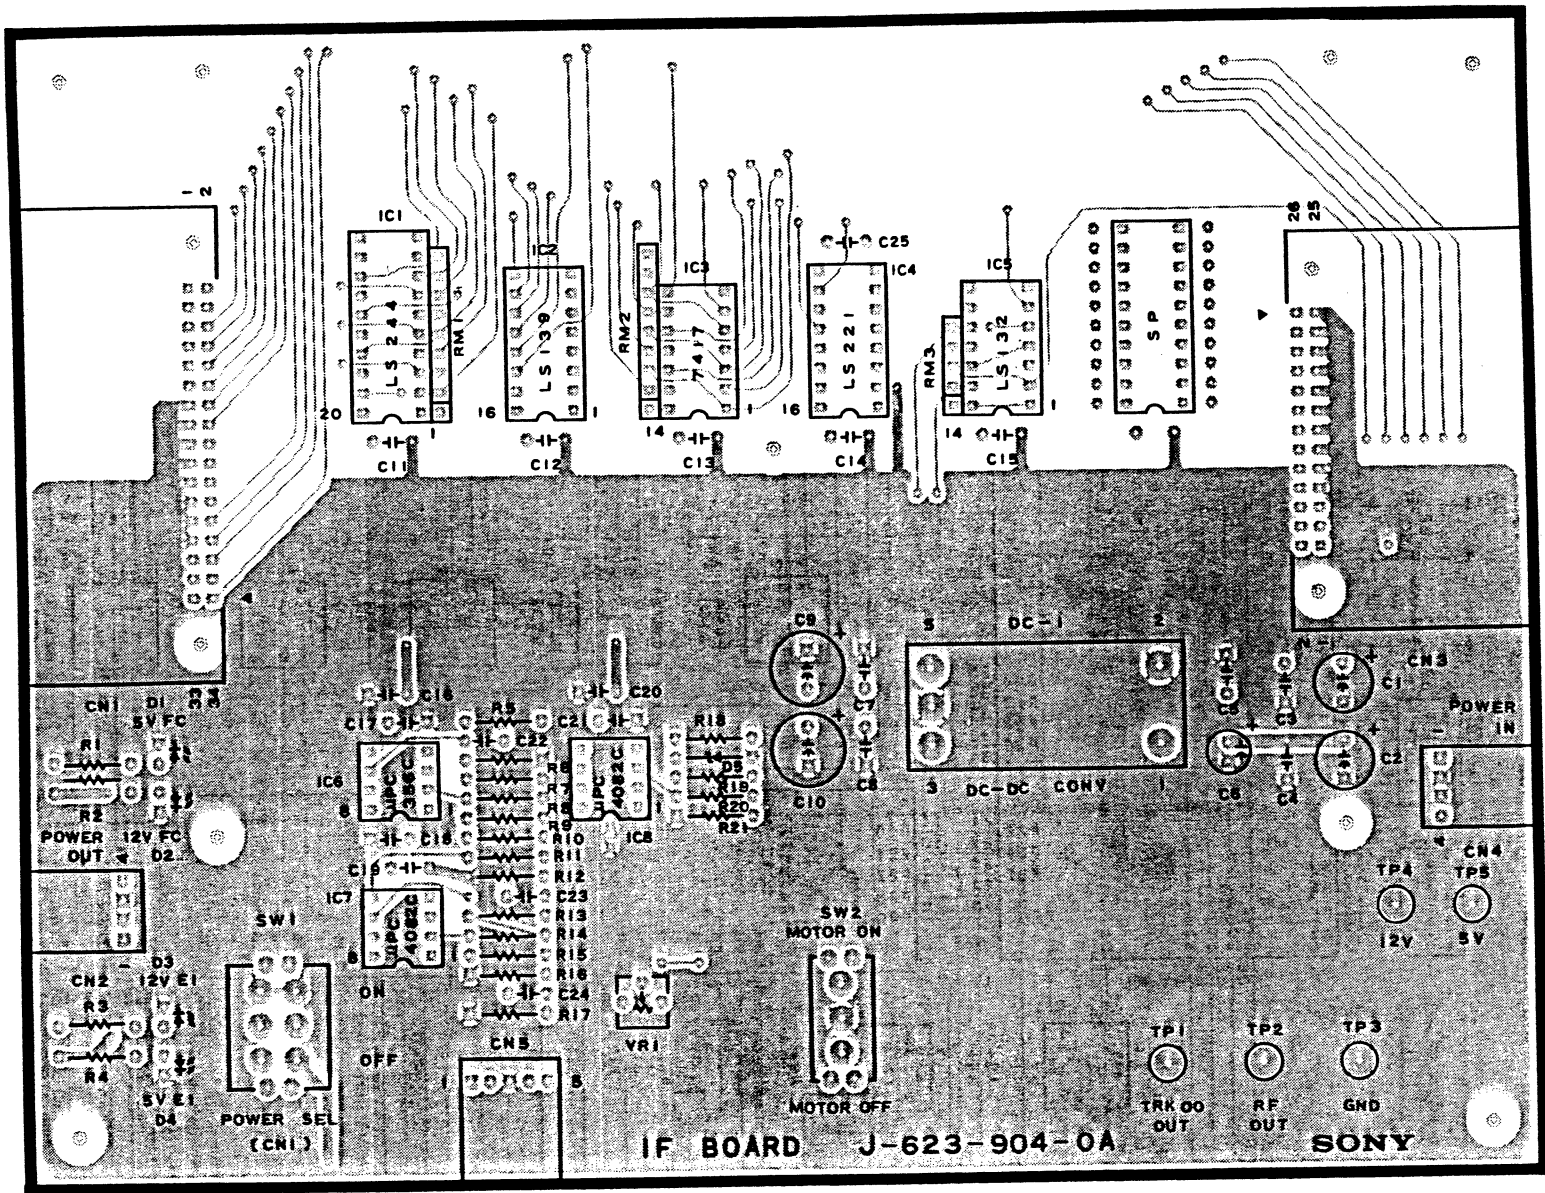

Fig. 2-5 Part Layout on IF Board 52/53
③ D1/D2..... These indicators are lit, during the actual power supply of +5V and +12V to 34pin connector. No indication for MP-F17W series.
④ D3/D4..... These indicators are lit, during actual power supply of +5V and +12V to IF board 52/53.
⑤ RF out/TRK00/GND..... These test terminals are used for radial alignment adjustment. (Refer to 5-1)
(3) Part Layout and Circuit Diagram on IF Board 52/53. (Refer to Fig. 2-5, 2-6)